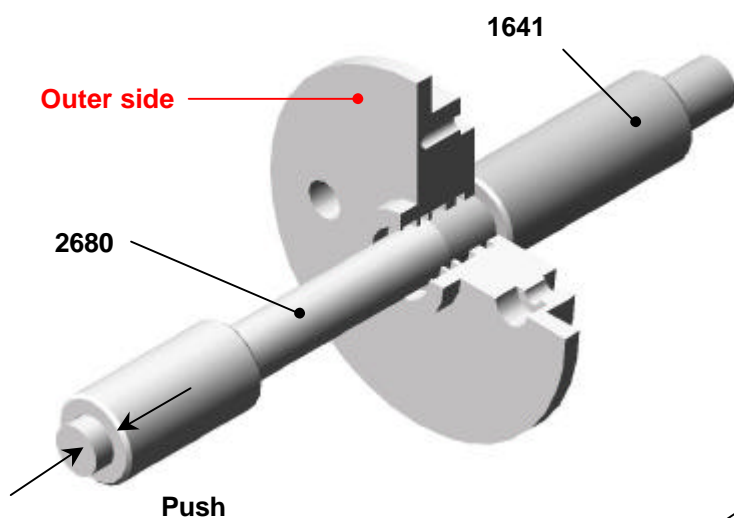

Figure 5
- While holding the O.ring positioning tool (P/N 1641) against the plate, place the sleeve insertion tool (P/N 2680) into the other side and use the push-button to release the sleeve free on the O.ring (Figures 5 & 6):